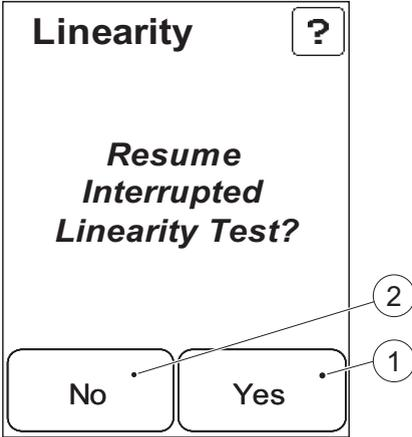
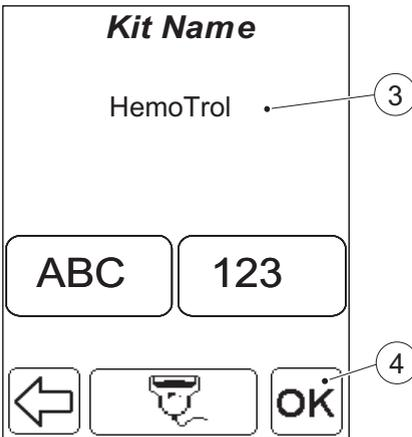

FIGURE 8-15
FIGURE 8-16
- c) If the linearity test is interrupted and then resumed within 10 hours by the same operator, using the same Cuvette Batch No. FIGURE 8-15 will be displayed. Otherwise FIGURE 8-16 will be displayed.